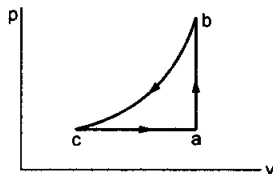

Figure 26-W1
1. A sample of an ideal gas is taken through the cyclic process *abca* (figure 26-W1). It absorbs 50 J of heat during the part *ab*, no heat during *bc* and rejects 70 J of heat during *ca*. 40 J of work is done on the gas during the part *bc*. (a) Find the internal energy of the gas at *b* and *c* if it is 1500 J at *a*. (b) Calculate the work done by the gas during the part *ca*.